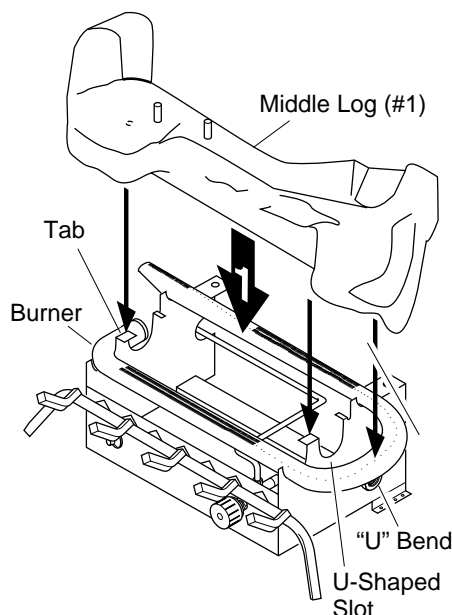

Figure 23 - Installing Middle Log (#1)
1. Place the base of the middle log (#1) in the U-shaped slots of the grate base. The cutout on the right of the middle log should fit over the burner (see Figure 23). Make sure the front of the middle log is resting on the tabs of the grate base and the cutout area is centered over the burner "U" bend.